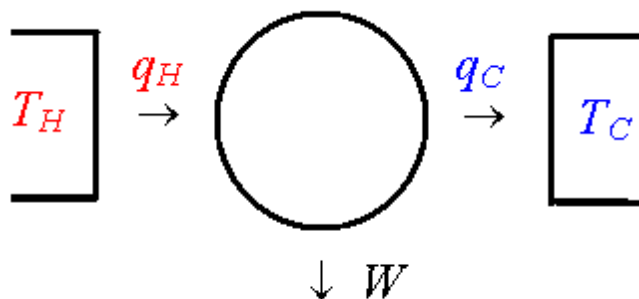

Figure 1: Schematic of a heat engine.
- Suppose the two reservoirs are not allowed to come into direct contact. Instead, an engine transfers heat q_H , *reversibly* (see Figure 1) from the high temperature reservoir. The engine converts some of the heat to work and exhausts the remaining heat q_C to the low temperature reservoir.